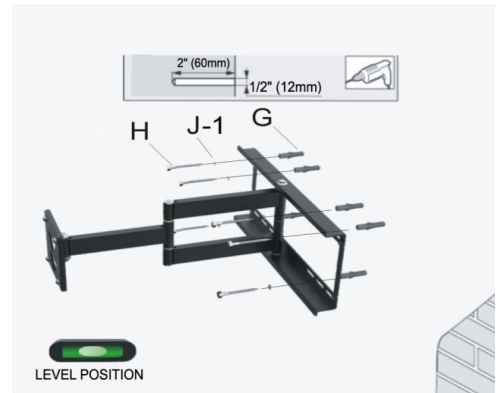

Figure 4
- 2 Mark six holes to be used for securing the mount, and place the wall plate aside. Locate the holes directly into the block or concrete, never into the mortar between the blocks (Figure 4).
- 4 Insert a concrete anchor (G) into each hole.
- 7 Insert bolts (H) and washers (J) into the concrete anchor as shown (Figure 4) and tighten. Do not fully tighten until all screws are in place.